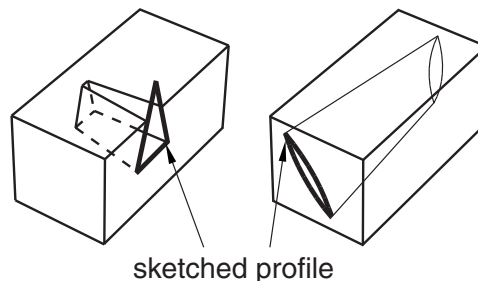

Figure 11–33 Extruded cut features with draft and twist.
- To create a cut loft feature, you transition the shape from the initial loft section to an end section of a different shape or orientation, as shown in Figure 11–34. Abaqus/CAE determines the shape